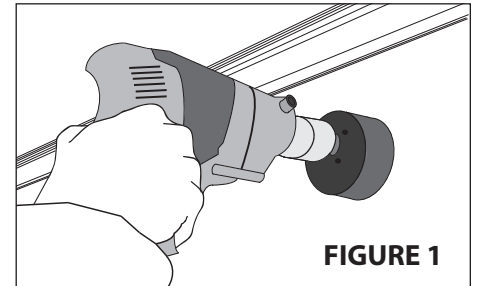

FIGURE 1
2. Using the appropriate hole-cutting tool, cut a 4-1/8" diameter hole through the siding, sheathing, insulation, and interior wall surface. **See Figure 1.** Take care to properly align the holes on the interior surface with the exterior and ensure a slight slope downward towards the outside. This slope will permit any water to drain to the exterior.